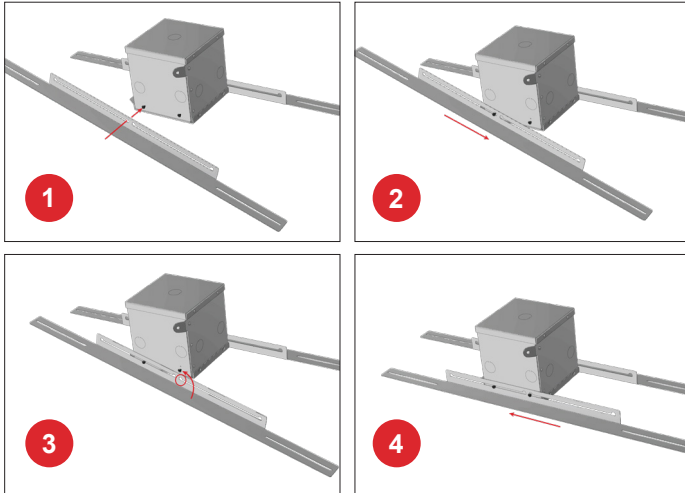

Figure 4.
1. Install the rails onto the pre-installed screws on the conduit box. Keyed slots allow tool-less installation. See numbered steps in Figure 4.